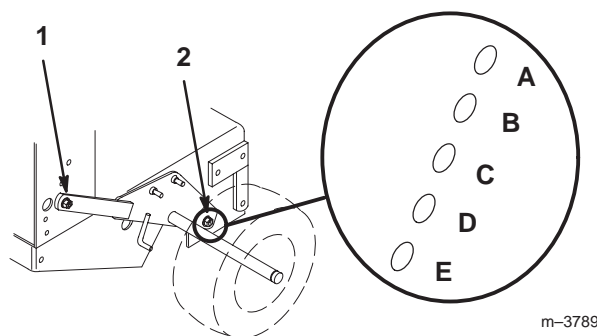

Figure 20
2. Loosen but do not remove the (2) axle pivot bolts and the (2) axle adjustment bolts (Fig. 20).
3. Place a jack under the rear center of the engine frame. Raise the back end of the engine frame up enough to remove front (2) axle adjustment bolts (Fig. 20).
4. Raise or lower the engine frame with the jack, so that front (2) axle adjustment bolts can be installed in the desired hole location (Fig. 20). A tapered punch can be used to help align the holes.
5. Tighten all (4) bolts and lower the unit.